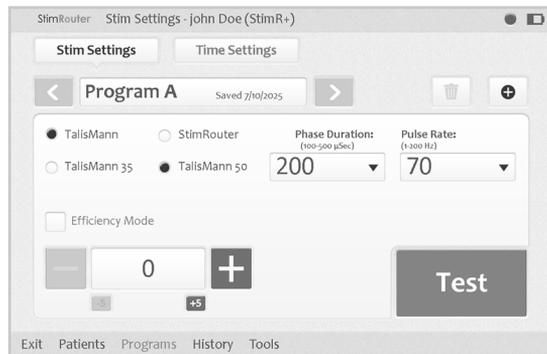

Figure 9-6: Stim Settings window
2. From the Patients List, select a patient and press “Open”. The Stim Settings window will open. See Figure 9-6. Ensure StimRouter is selected.